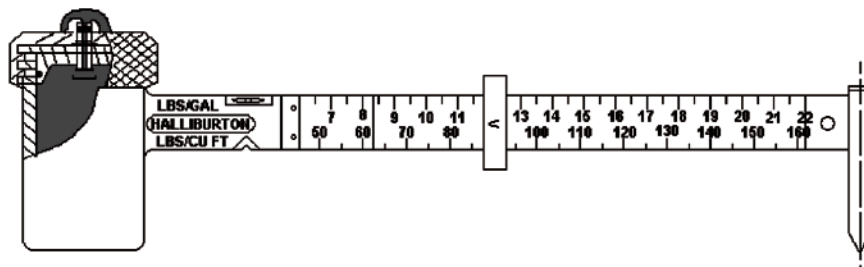

Figure 4-2 A properly filled sample cup
5. As previously mentioned, some fluid should flow out the check valve (Figure 4-2). If fluid does not flow out, remove the lid and pour more fluid into the cup.